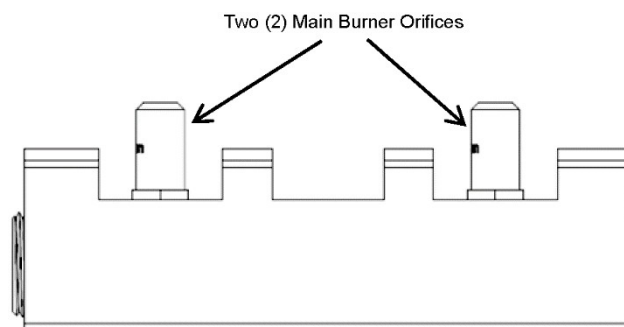

Figure 27. Burner Manifold
- Replace main orifices (Figure 27)
2. Replace the main orifices (Figure 27) on the manifold assemblies with the supplied LP orifices and replace the manifold assembly. Reconnect and secure the union. Check for leaks.